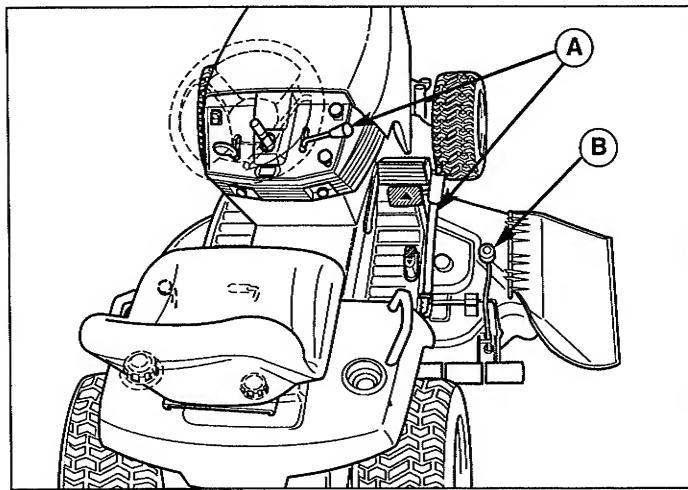
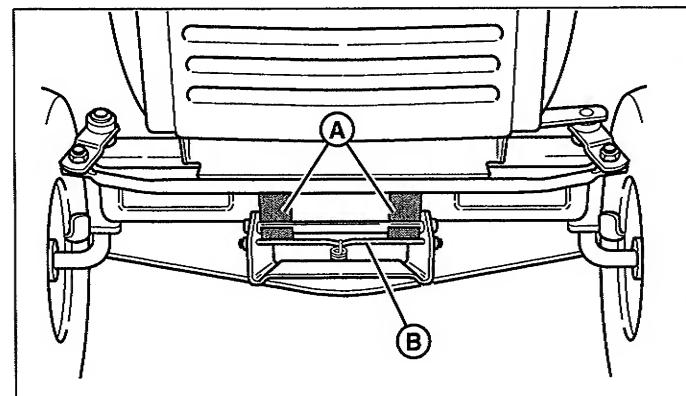

Figure 14. Raising & Lowering Mower
Figure 16. Mower Hitch
2. Place mower in the lowest cutting position using the mower height adjuster (B, Figure 14). Slide the mower deck under the right side of tractor so that the mower hitch is aligned with front tractor hitch (A, Figure 16).
3. See Figure 16. Turn wheels straight. Pull back on the spring-loaded lever (B) while lifting up on the mower hitch. Install the mower hitch onto tractor hitch brackets (A). When properly installed, the spring-loaded lever should seat fully underneath the brackets (A).